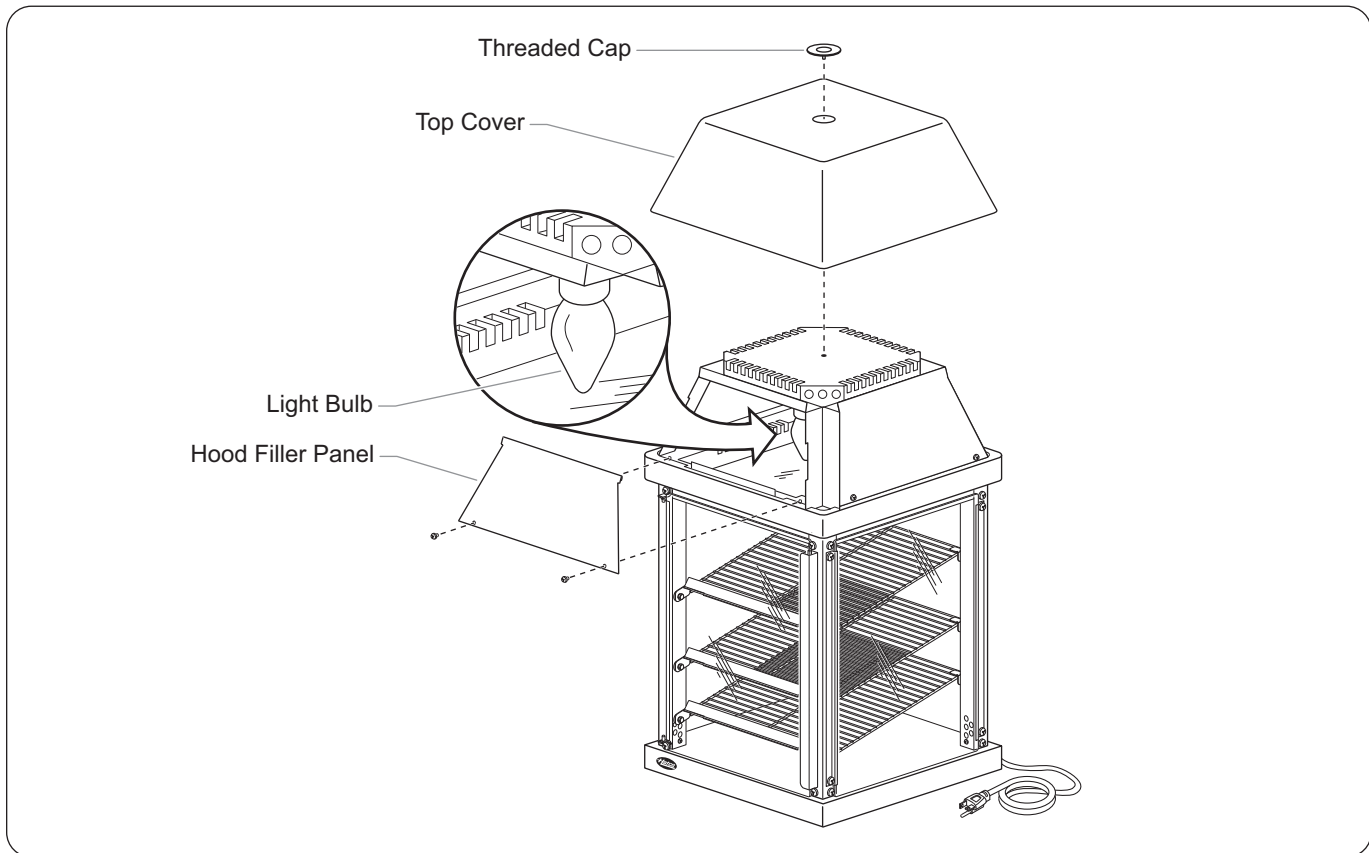

Figure 9. Bulb Replacement
2. Unscrew and remove the threaded cap from the top cover (see Figure 9).
3. Remove the top cover from the cabinet (see Figure 9).